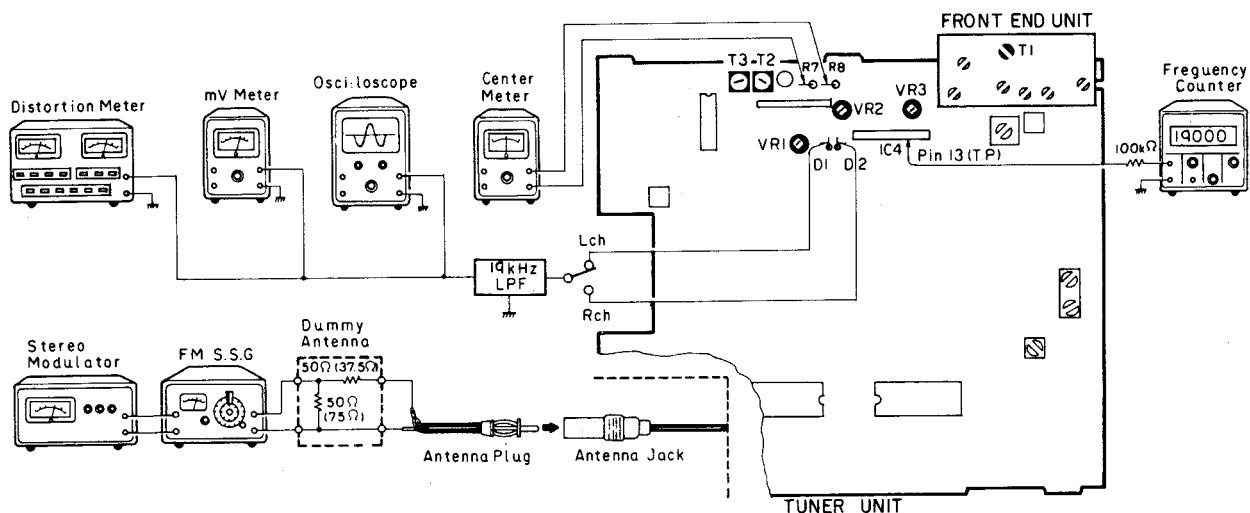

Fig. 4
- Connection Diagram (Shown in Fig. 4)